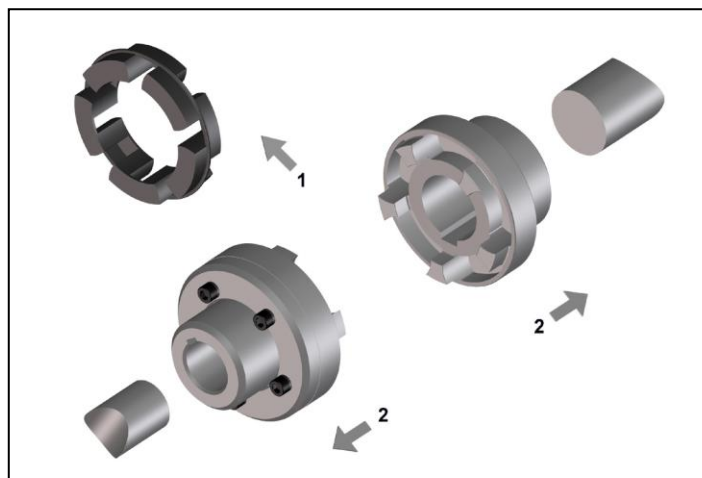

Fig. 3
- Remove the elastic intermediate ring (Figure 3, Pos. 1).
- Pull the flange hub onto the shaft end in its intended position (Figure 3, Pos.2).